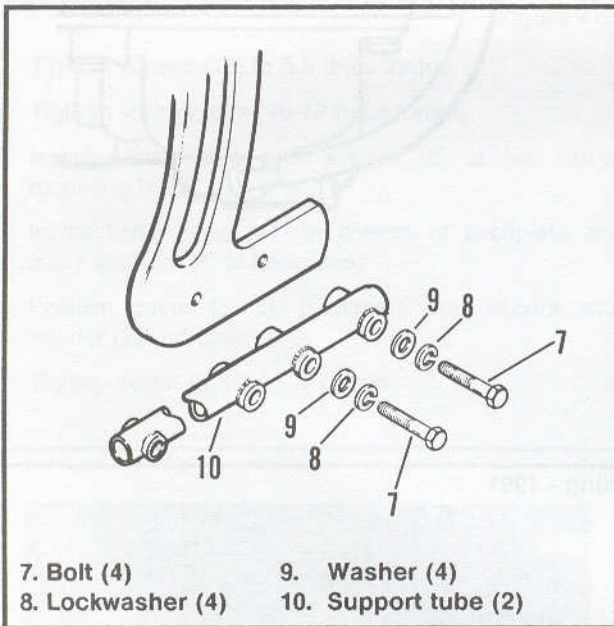

Figure 4-26. Exhaust Support Tube
4. Remove muffler support tubes/bracket bolts (12), washers (13), and lockwashers (14). Remove exhaust system as an assembly.
5. See Figure 4-26, 4-27. If necessary, remove bolts (7), lockwashers (8) and washers (9) attaching exhaust support tubes (10/bracket 11, Figure 4-27) to frame.